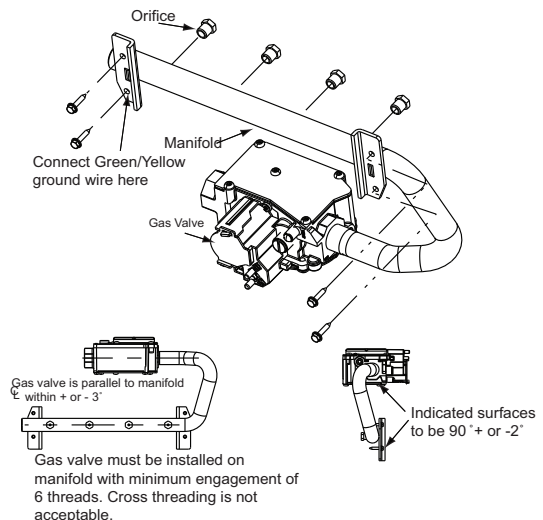
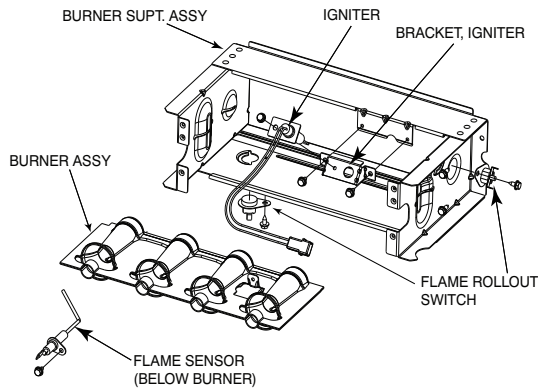

Fig. 2 – Manifold Assembly
Fig. 3 – Burner Assembly
- NOTE:** Use a back-up wrench on the gas valve to prevent the valve from rotating on the manifold or damaging the mounting to the burner box. See Fig. 2 and Fig. 3.
4. Note the location of the green/yellow wire ground wire for re-assembly later. See Fig. 2.
6. Remove the flame sensor from the burner assembly. See Fig. 3.